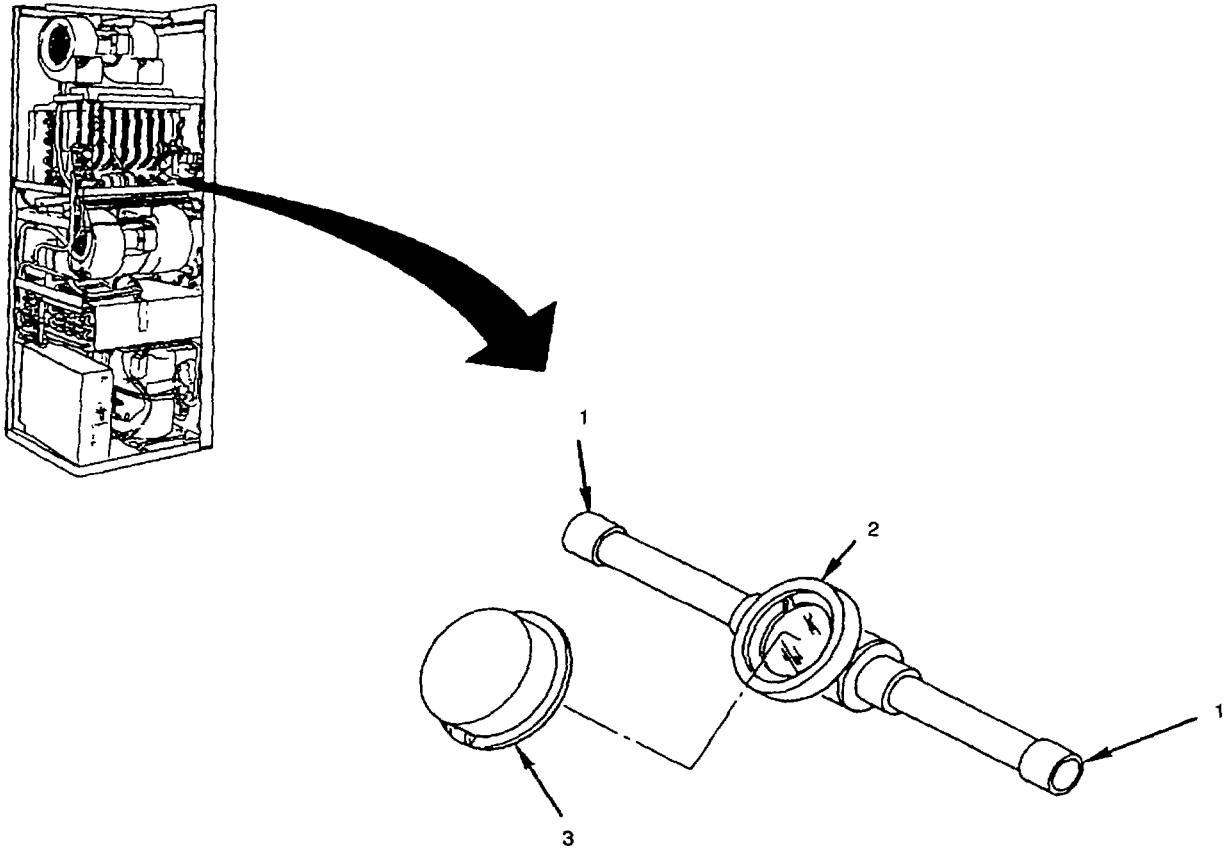

Figure 5-15. Sight Refrigerant Glass
- (1) Disconnect air conditioner input power at source;
- (2) Remove return air filter (paragraph 4 26); and
- (3) Pump down refrigerant system (paragraph 5.19).
- a. Aspect for evidence of leaks or damaged lines (see fig. 5-15).